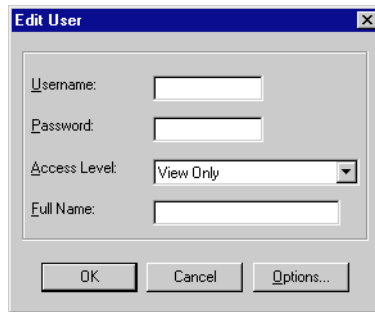

Figure 3 - Edit User Dialog Box
2. Select the word USER from the Users list and press the Edit button. The Edit User dialog box (*Figure 3*) should appear.